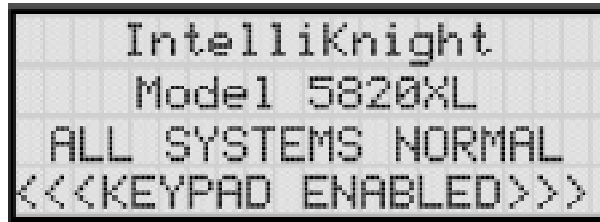

Figure 6-7 Keypad Enabled Screen
2. The display prompts you to press the  or  key to bring up the Installer Main Menu (see Figure 6-7).